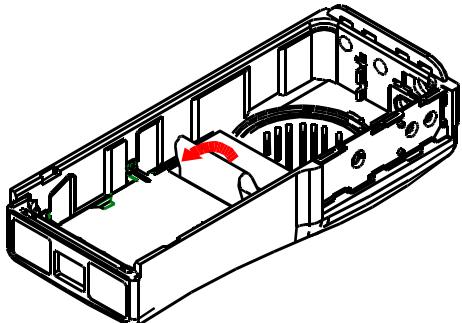

Figure 1-10. Place Front Housing Shield Into Front Housing
- Place the front housing shield into the front housing using the four slots on the front housing wall as the guide (Figure 1-10).